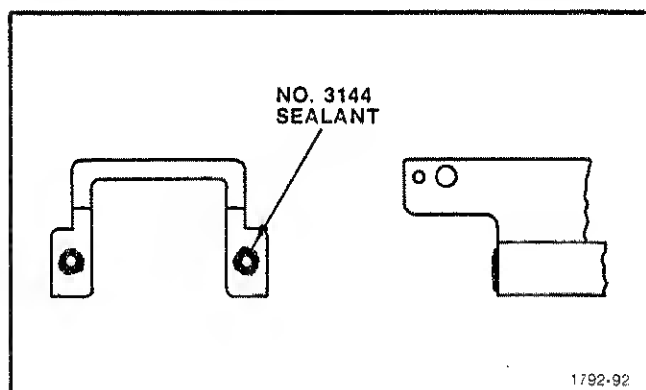

Fig. 5-39. Sealing of latch-assembly screwholes.
33. Attach Latch Assemblies (2 ea.) to the Front Cover (see Fig. 5-39)
2. Apply No. 3144 sealant to the two screw-holes in each Latch Assembly as shown in Fig. 5-39.